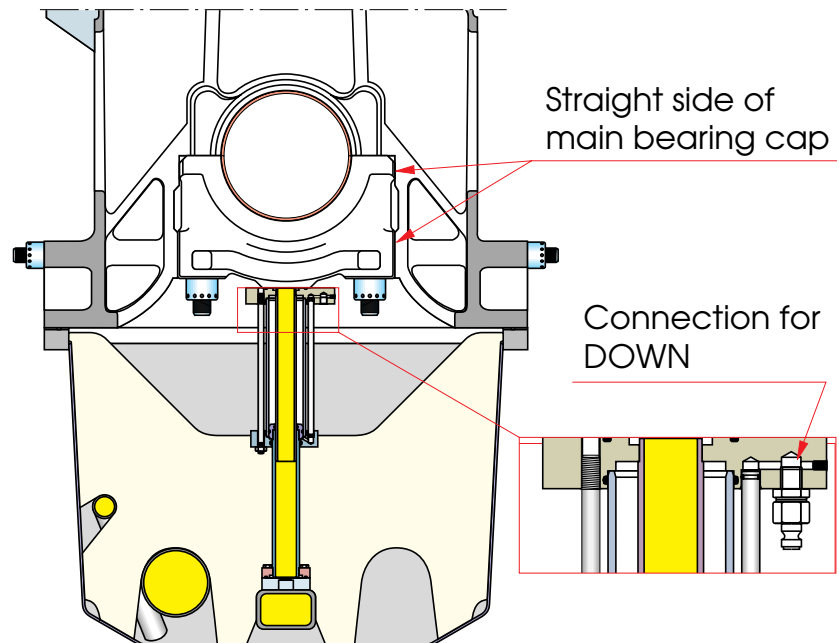

Fig 10-2
12 Connect the hoses of the hydraulic pump 800059 and to the side marked DOWN on the hydraulic jack, see Fig 10-2. Connect the return hose to the side marked UP and an additional quick coupling male part to the free end of the return hose and place it in the crankcase.
12 Mount the distance sleeves 800042 and the hydraulic tool 800041 into position on the side screw (A₂) on the rear side on a in-line engine, and B-bank on a V-engine, i.e. the straight side of the bearing cap, see Fig 10-2. One or two nuts can be tightened simultaneously on the same side, see Fig 10-1.
- 11** Connect the hoses to the hydraulic pump 800059 and to the side marked DOWN on the hydraulic jack, see Fig 10-2. Connect the return hose to the side marked UP and an additional quick coupling male part to the free end of the return hose and place the end in the crankcase.
14 Mount the distance sleeves 800042 and the hydraulic tool 800041 in position on the side screws (A₂) on the rear side on a in-line engine, or B-bank on a V-engine, i.e. the straight side of the bearing cap, see Fig 10-2. One or two side screws (A₂) can be tightened simultaneously on the same side, see Fig 10-1.